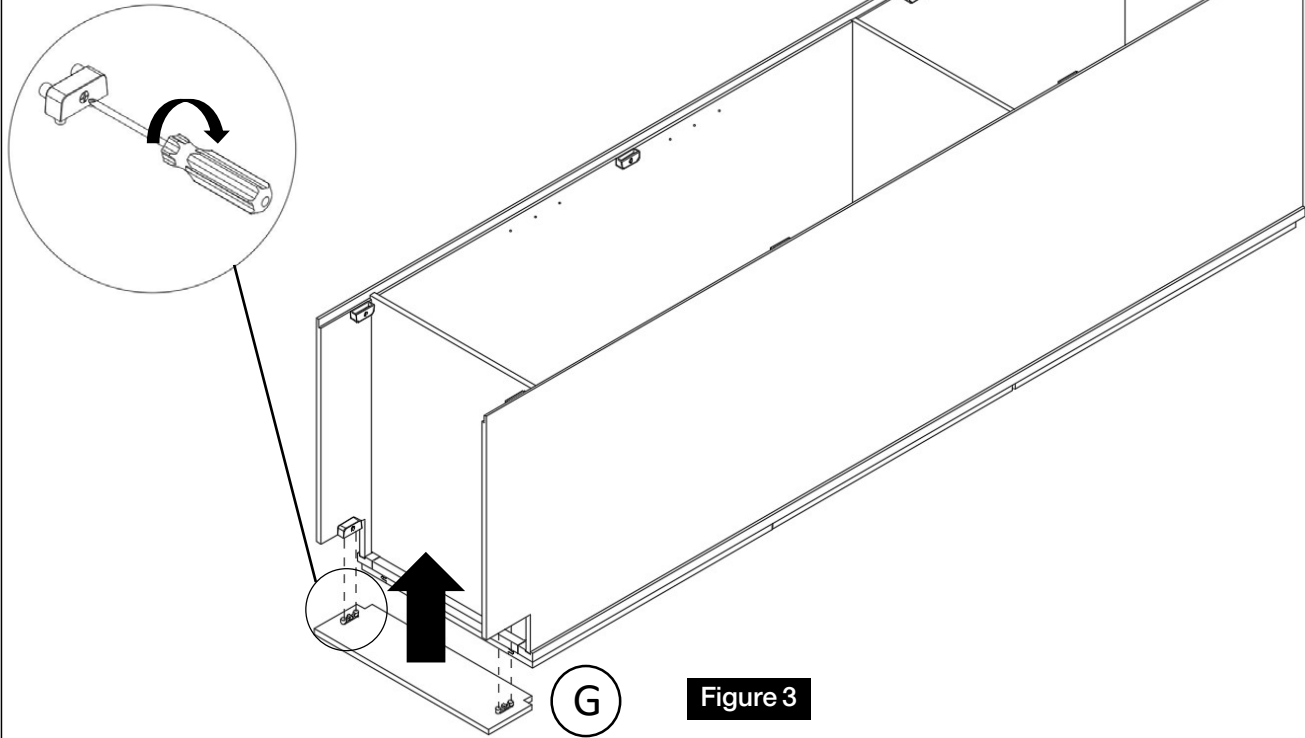

Figure 3
Install the toe kick (G) onto the side panels (A,B) and lock the cam locks. (Figure 3)